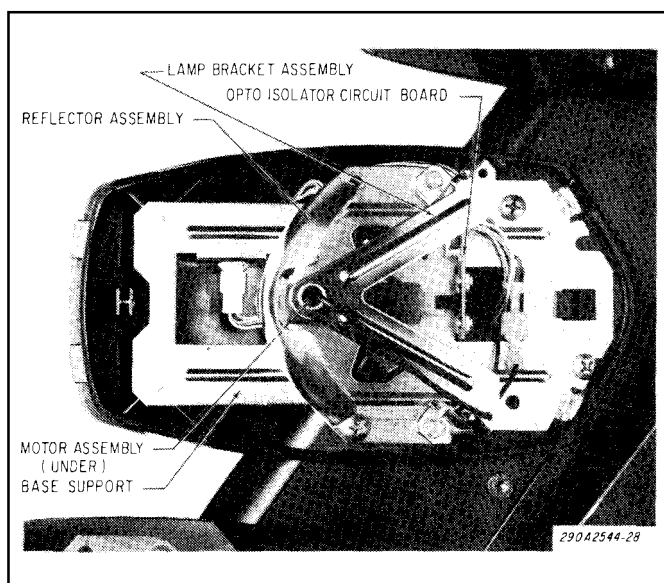

Figure 6-5. Pod Components.
D. Pod Servicing. (See figure 6-5.)